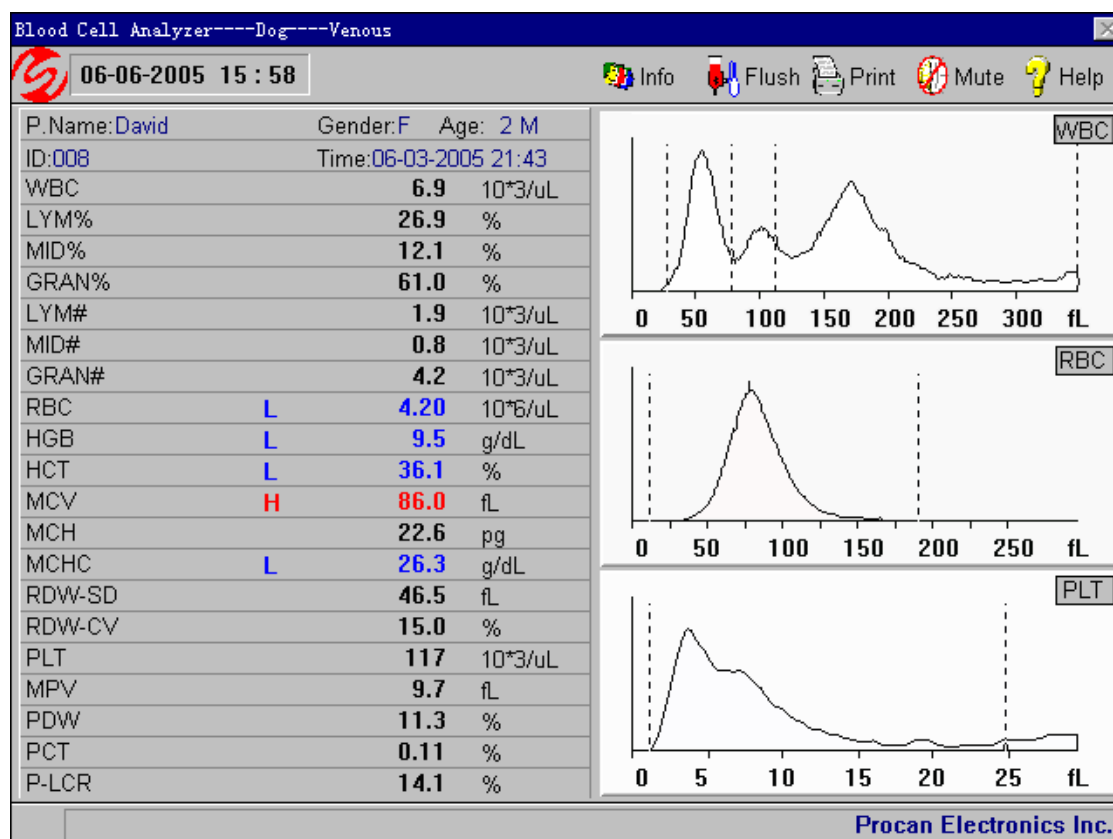

Figure 3-1
After self-test, the instrument will access blood cell analyzer window, as shown in Figure 3-1.
- b) After the analysis finished, the result will be displayed in the rear of the corresponding parameters on blood cell analyzer window of the instrument, with histograms WBC, RBC, and PLT. As shown in figure 3-1.